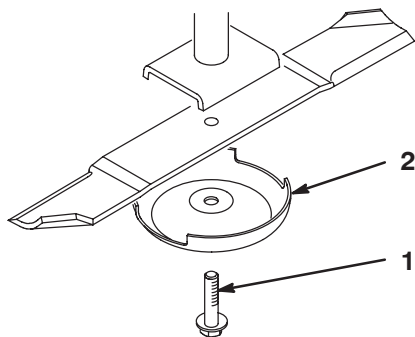

Figure 84
2. Grasp the end of the blade using a rag or thickly padded glove. Remove the blade bolt, anti-scalp cup, and blade from the spindle shaft (Fig. 84).